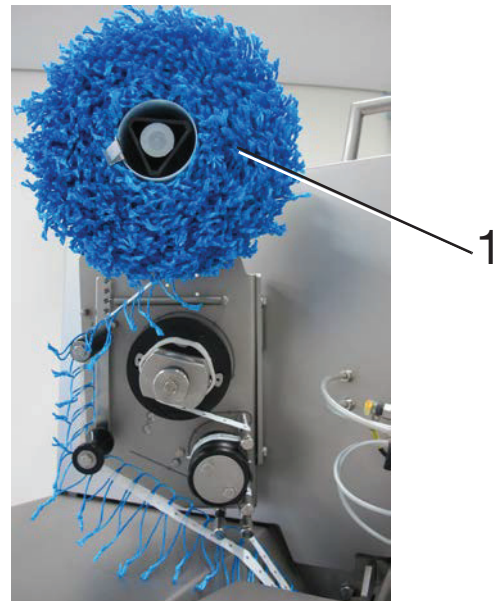

Fig. 9-6 GSA 20
- For the GSA 20 automatic looper, remove the loop reel (1). (Fig. 9-6)